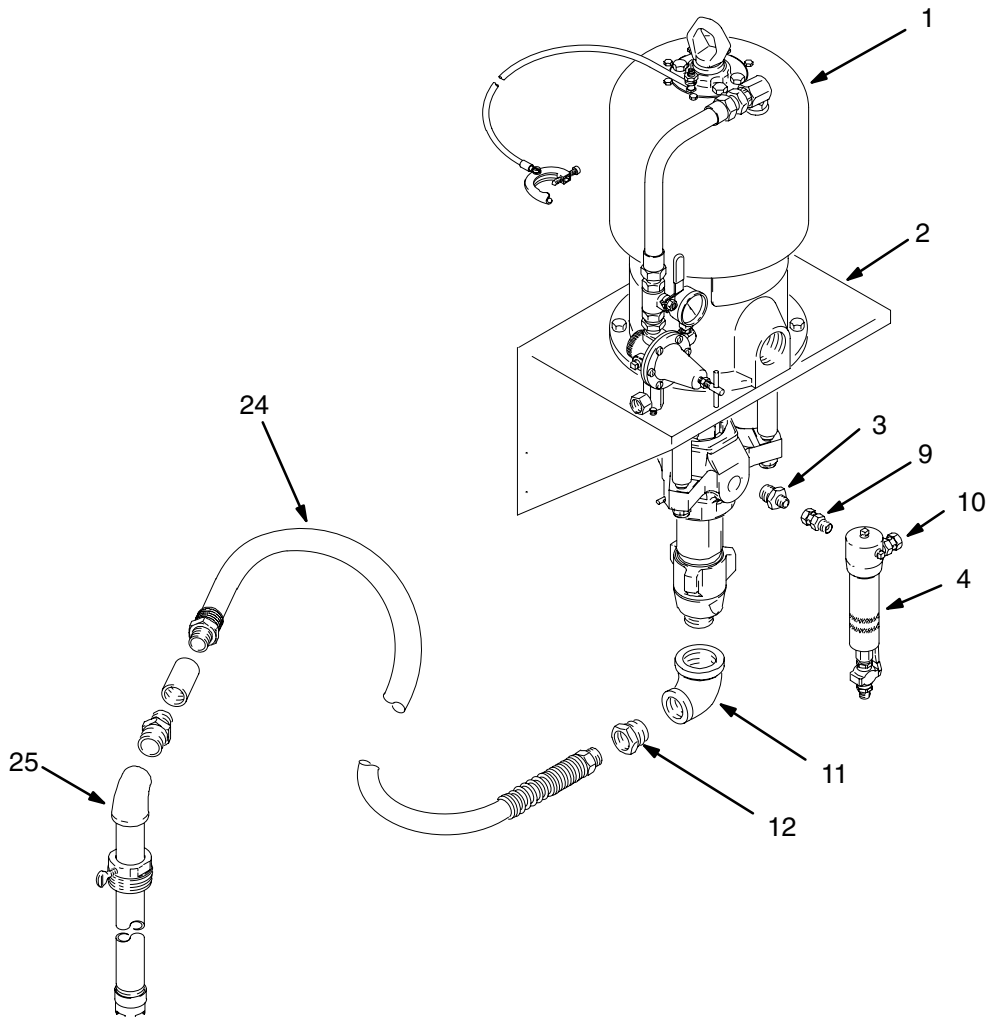

Fig. 5
2. Attach a heater wall bracket to each heater's mounting posts with the M8 x 1.25 screws and lockwashers supplied with the heater (44).
4. Remove the fluid filter (4) and attaching hardware (3, 9) from the pump fluid outlet. Keep the filter, but discard the attaching hardware. See Fig. 5.
1. Remove the suction tube (25), fittings (52 and 53), hose (24), and adapter (12). See Fig. 5. Keep these parts for use later.